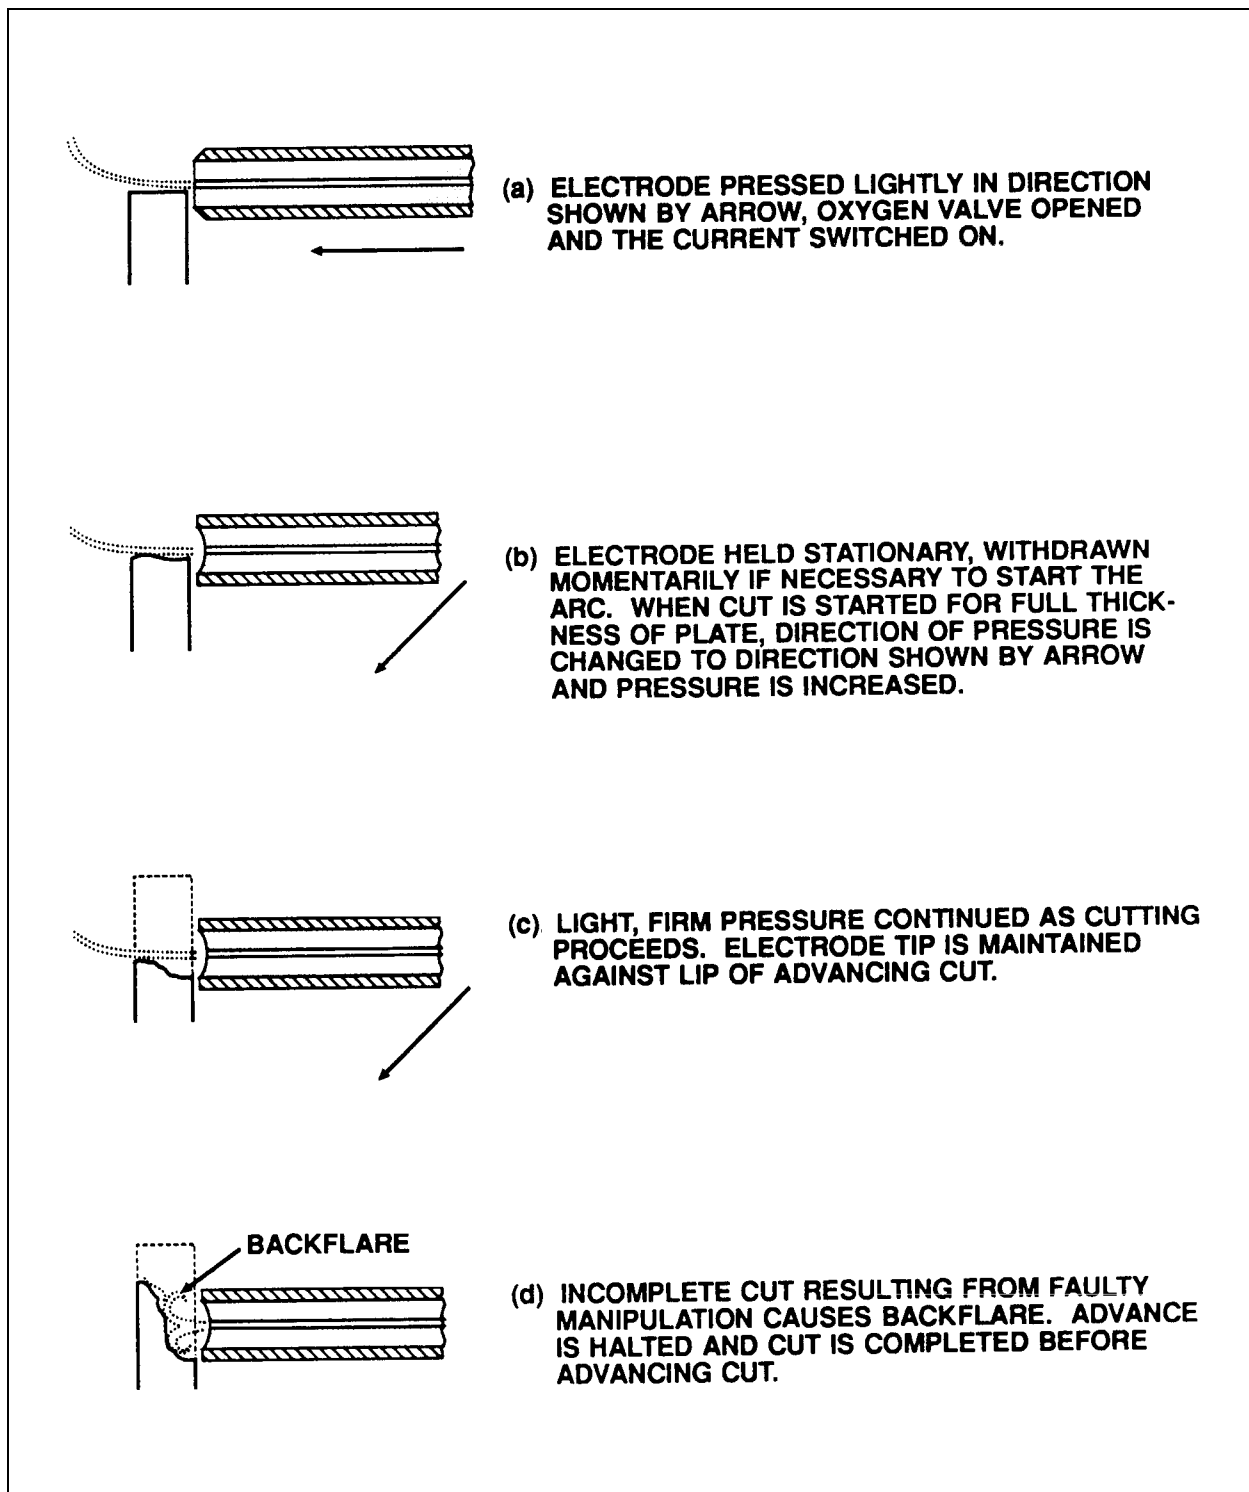

Figure 2-3. Drag Techniques for Cutting Steel with Steel-Tubular Electrodes
**2-2.9 Steel-Tubular Electrode Cutting Technique (Thick plate).** When cutting steel plate that is 1/4-inch thick or greater, use the drag technique (see Figure 2-3) and proceed as follows: